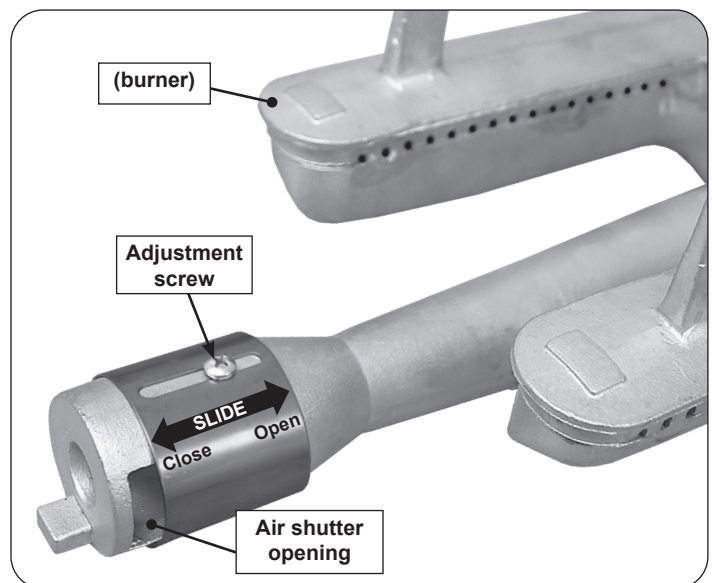

Fig. 50-2 Main burner air shutter adjustment detail
1. To adjust the air shutter, loosen the adjustment screw with a Phillips screwdriver. Then slide the shutter to open or close it. See Fig. 50-2 for details.